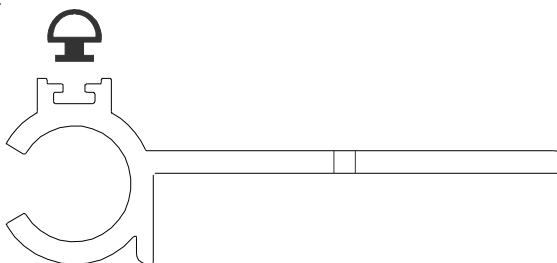

Figure 3
STEP 3. If the V3R gaskets were not installed into the base members at the factory, install the V3R into the base members. Select a base member section and a V3R section, and insert the foot of the V3R into the base member's channel and slide the V3R into the channel (see Figure 3). Ensure that the V3R does not stretch during installation. Repeat this procedure for each section of the base member.